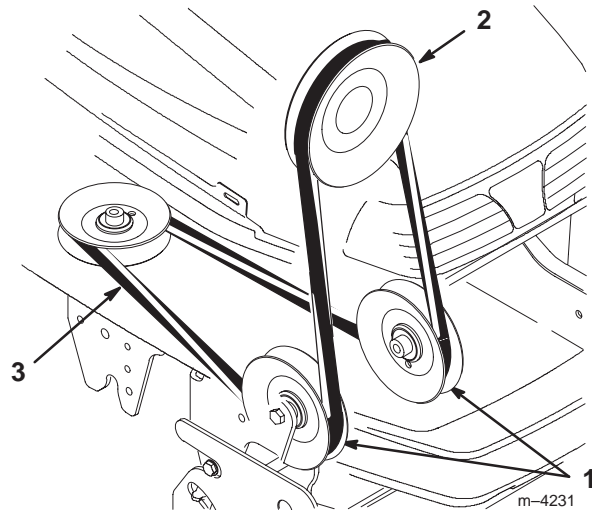

Figure 13
5. Position the belt into the groove of the PTO pulley (Fig. 13), ensuring that it is also under the pulleys in the pulley box.